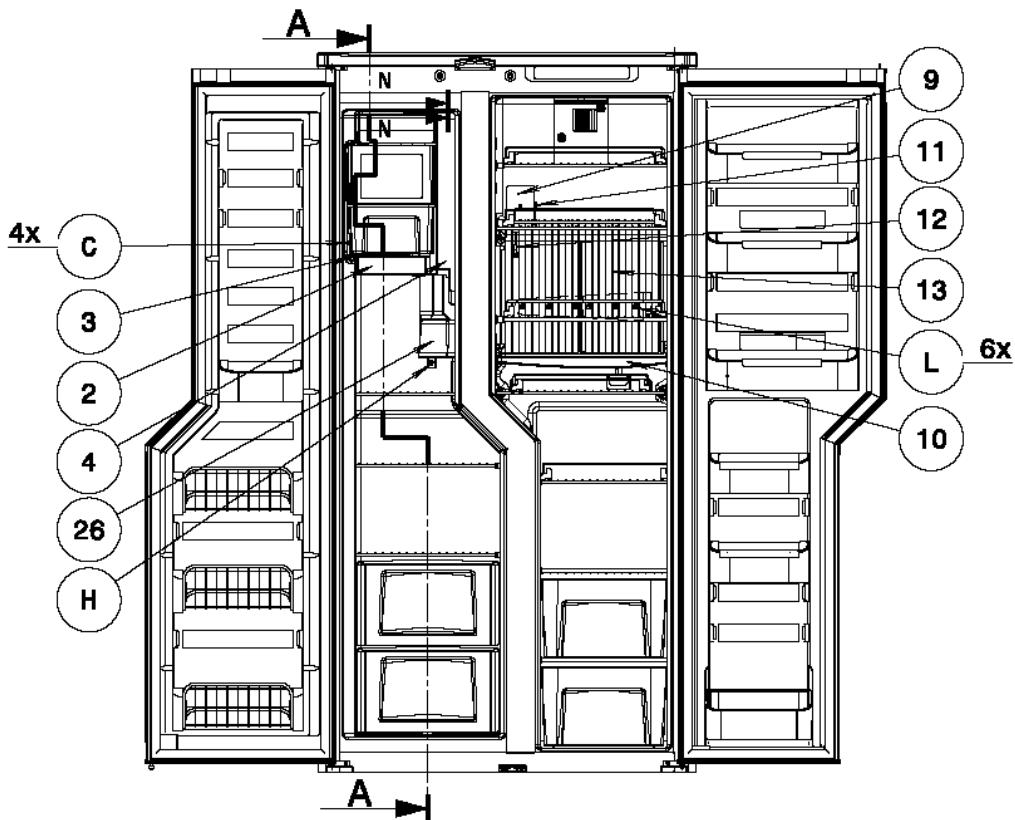
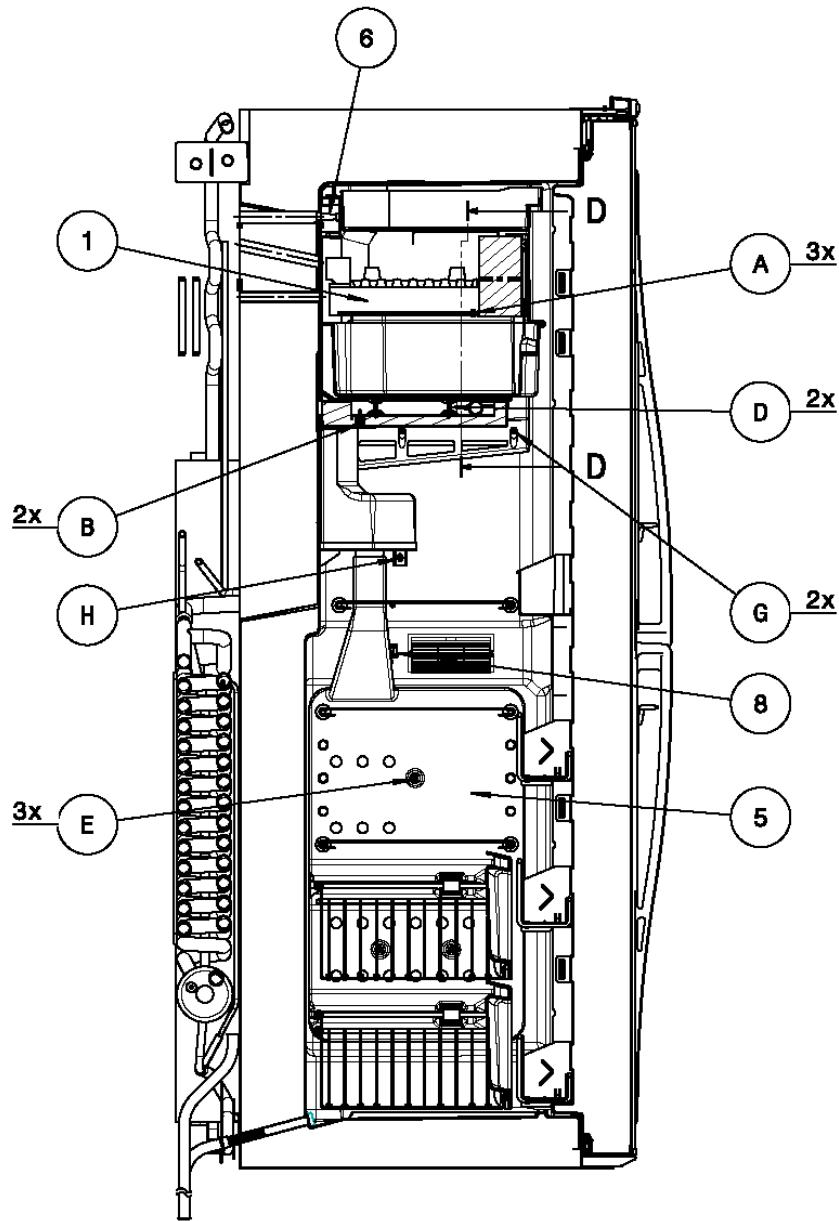

FIG. 1
FIG. 2
6. Remove the icemaker (1, Fig. 2) by removing 3 screws (A, Fig. 2) and disconnect the icemaker from the connector.
7. Remove insulation (2, Fig. 1) by removing 2 screws (B, Fig. 2).
8. Remove icemaker shelf (3, Fig. 1) by removing 4 screws (C, Fig. 1) and 2 screws (D, Fig. 2).
10. Loosen the thermistor (8, Fig. 2) from its holder and remove air distributor (5, Fig. 2) by removing 3 screws (E, Fig. 2). If necessary the lamp cover can be removed for easier access.
11. Open the interconnection box by removing one screw (6, Fig. 2) and disconnect the 3 connectors.
12. Remove drip tray and insulation (4, Fig. 1) by removing 3 screws (F, Fig. 6) and 2 screws (G, Fig. 2)
13. Remove air duct and the fan (26, Fig. 1) by removing 2 screws (H, Fig. 1 and 2) and 2 pins (I, Fig. 4).
15. Remove the 4 upper shelves and the drip tray (10, Fig. 1) in the fridge.
16. Open the interconnection box (9, Fig. 1) and disconnect the connector.
17. Loosen the thermistors (11, Fig. 1) and (12, Fig. 1).
18. Remove the fin package (13, Fig. 1) by removing 6 screws (L, Fig. 1). This has to be done with great care as the fin package is divided in two halves. A heater foil is attached on the backside and will come loose if the two halves not are aligned.
38. Attach the fin package (13, Fig. 1) with care to avoid the heater foil to come loose.
43. Replace the air duct (26, Fig. 1) with 2 pins (I, Fig. 4) and 2 screws (H, Fig. 1 and 2) and the air distributor (5, Fig. 2) with 3 screws (E, Fig. 2). The wiring from the thermistor (8, Fig. 2) and the fan in the air duct shall be placed between the air duct and the back wall.
44. Replace drip tray and insulation (4, Fig. 1) with 3 screws (F, Fig. 6) and 2 screws (G, Fig. 2). Enter the drip tray into the drain hose.
45. Connect all the connectors (fan wiring shall be connected to the red and black cables with one of the Molex connectors) and close the interconnection box (6, Fig. 2).
46. Replace the thermistor (8, Fig. 2) in its holder and replace shelves and drawers.
47. Apply a string of thermo mastic on the icemaker evaporator tube and replace the icemaker shelf (3, Fig. 1).
48. Replace the insulation (2, Fig. 1).
49. Apply thermo mastic under the icemaker where it is in contact with the icemaker shelf. When the 3 screws (A, Fig. 2) are fastened, make sure to level the ice maker.
FROM FIG. 1